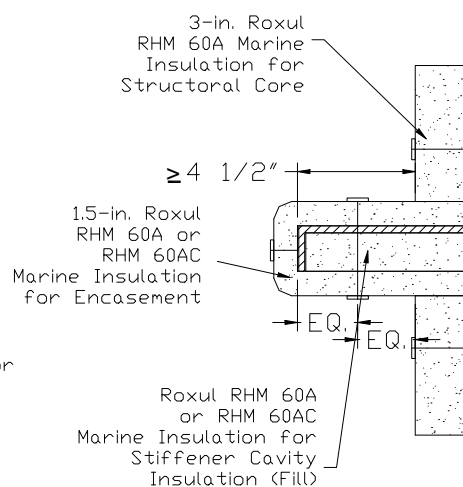

Figure 2B
2.1 Following appropriate bulkhead preparation to insure proper pin welding to the bulkhead and stiffeners, 12 gauge steel weld pins are welded to the bulkhead face plate between the stiffeners and on the face of the stiffeners, up to 14 inch (356 mm) on centers at the locations shown in **Figure 2**. Weld pin placement must be maintained with a maximum of 6 inches (152 mm) from horizontal insulation seams and a maximum of 3 inches (76 mm) from vertical outside edge of the stiffener insulation. Should the stiffener leg dimension, as shown in **Figure 2B**, be equal to or greater than 4½” inches (114 mm) measured between the core insulation and stiffener flange, an additional weld pin shall be installed on the same stiffener pin placement centers equidistance between flange and the top of structural core insulation.